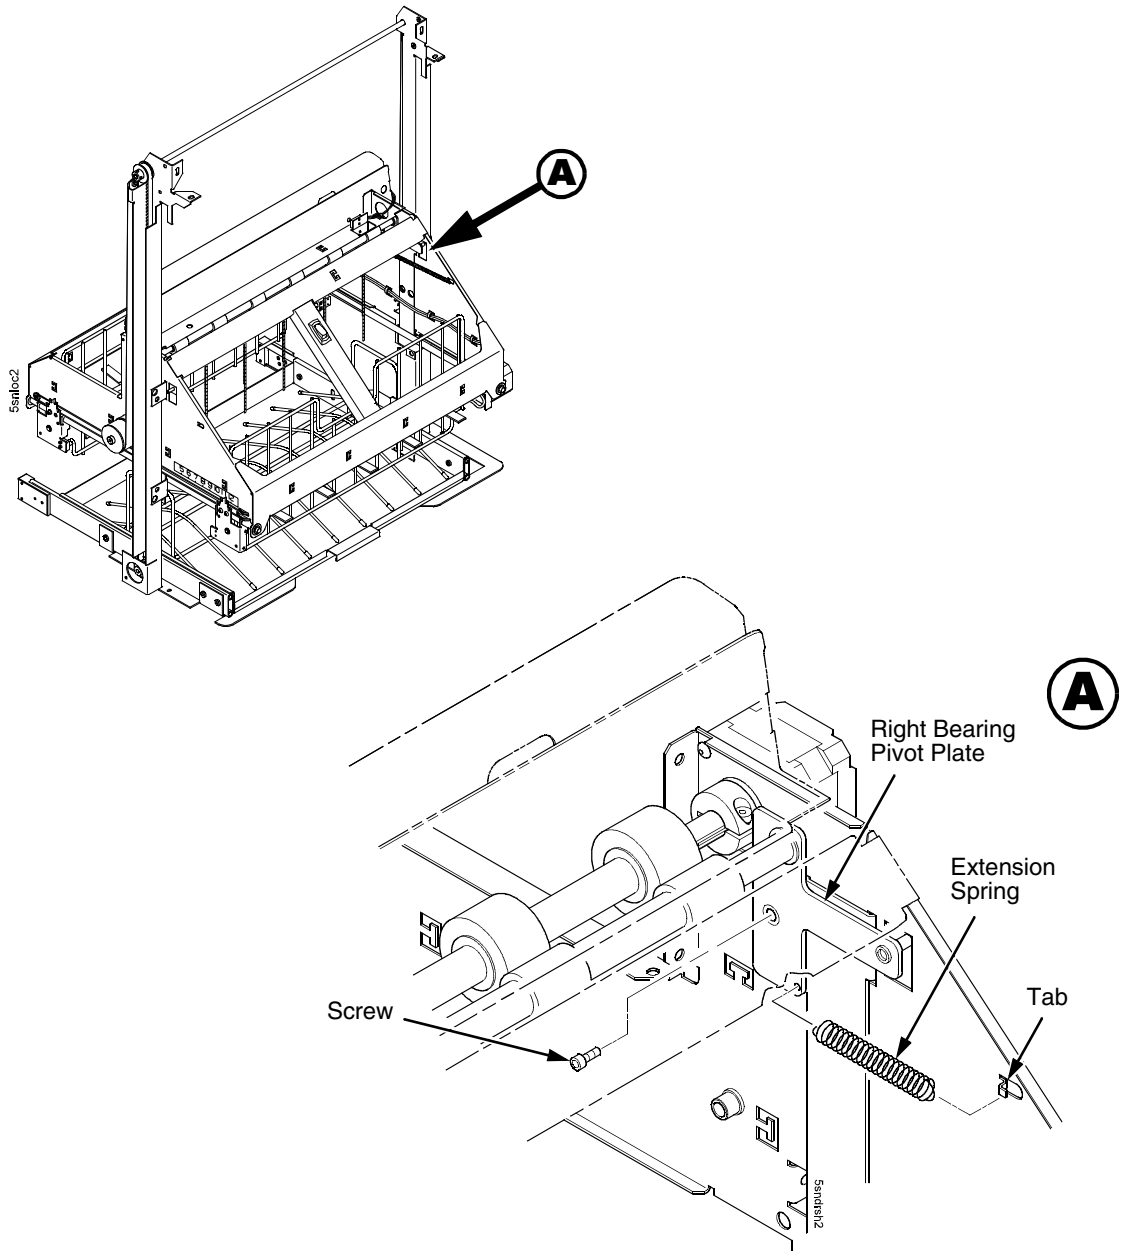

Figure 100. Right Bearing Pivot Plate and Extension Spring
2. Unhook the right bearing pivot plate's extension spring from the tab on the elevator. (Figure 100.)
3. Using an M-2 Allen wrench, remove the screw securing the right bearing pivot plate to the elevator. (Figure 100.)